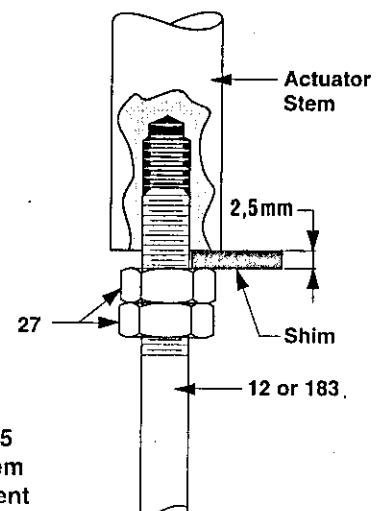

Figure 5
- Screw and tighten the two screws (16). Tighten also the two nuts (8a). Finger tight the two packing flange nuts (8b).
- Screw one nut (27) against the lower part of the actuator stem while placing a 2,5 mm shim between nut and stem (see Figure 5).
- Tighten second nut (27) against the first in this position. Remove the shim and screw the plug stem into the actuator stem, until the nuts contact the actuator stem. Lock by means of a wrench applied on the nuts.